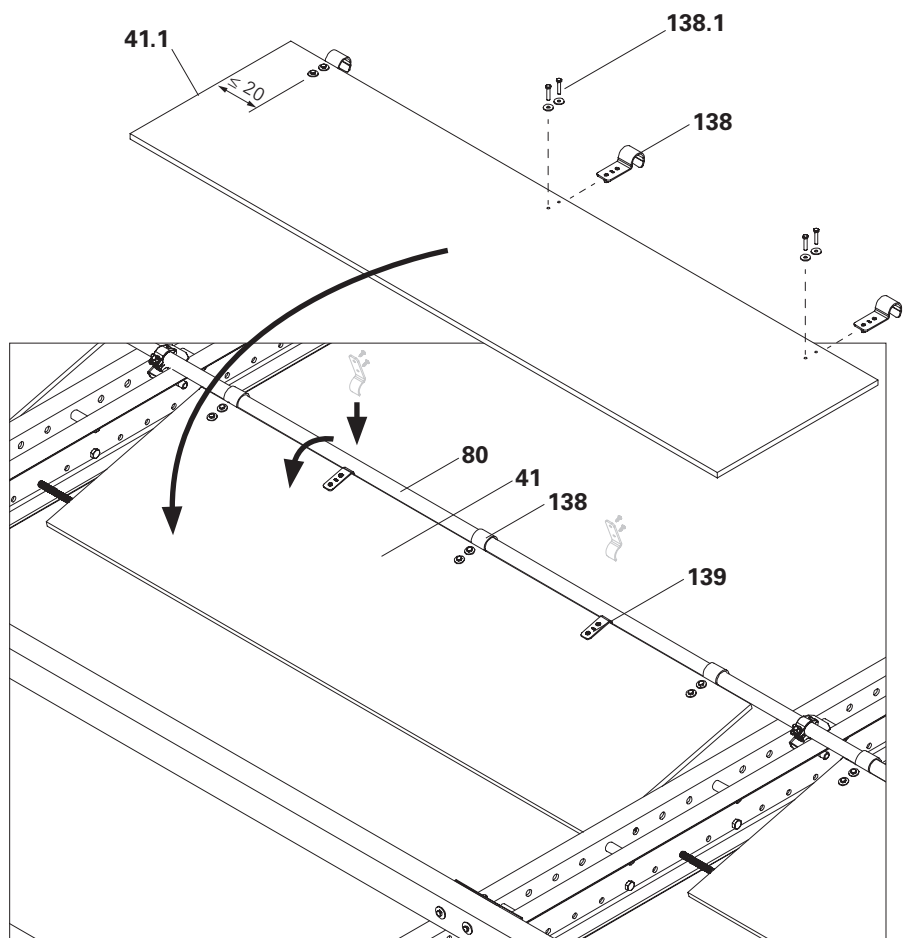

Fig. C2.04
6. For each foldable cover, mount at least one flap safety plate (**139**) approximately in the centre using 2 SPAX Screws TX 30 8x20. Foldable cover is now secured. (Fig. C2.04)